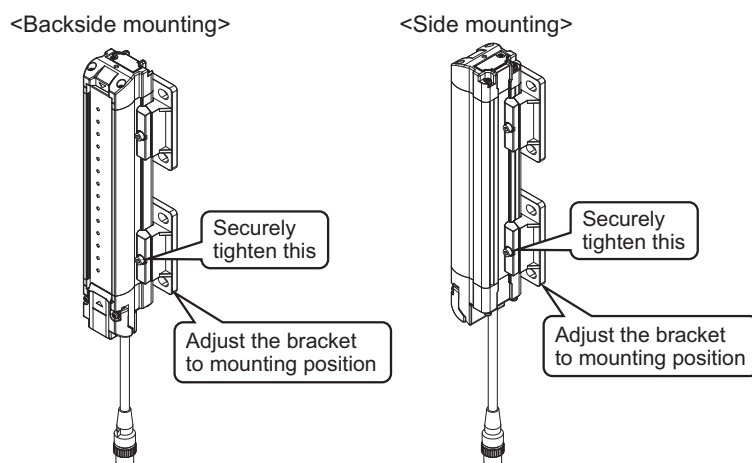

Fig. 3
3. Adjust the Standard Fixed Bracket to the mounting position of the wall surface. Securely tighten the hexagon socket head cap screw (M3 x 15) to fix the Standard Fixed Bracket to the housing of the F3SG-R. The recommended torque to tighten the hexagon socket head cap screw (M3 x 15) is 2.0 N•m. (Fig. 3)